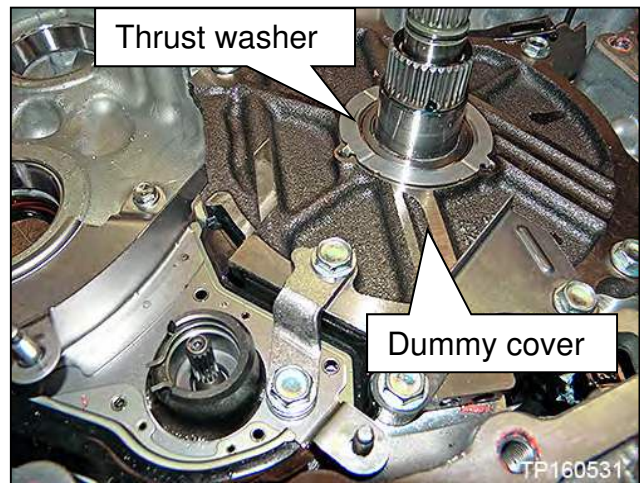

Figure 45
- a. “Pump cover” (dummy cover) thrust washer (Figure 45).